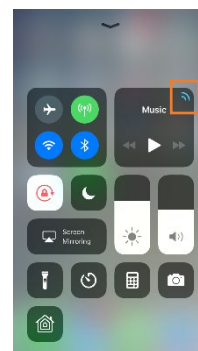

Figure 48.
1. Open the Control Center (Figure 48).